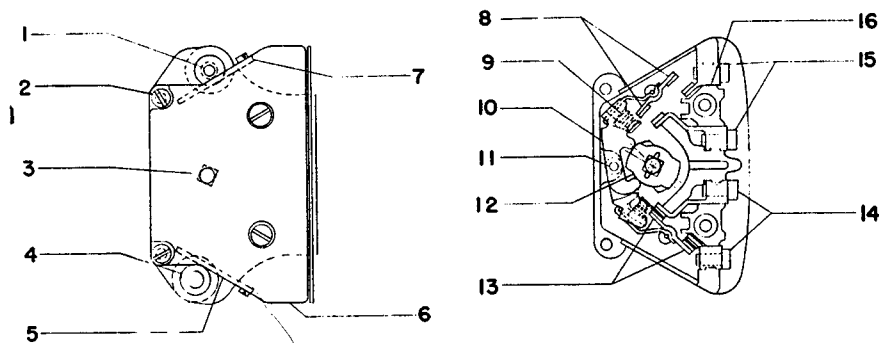

Fig. 19 (242C588) Auxiliary switch - standard breaker
The auxiliary switch operating rod (5) should be adjusted so that the switch "a" contacts close when the arcing contacts of the outer poles are parted by 1/8 to 1/4 in. This dimension may be checked in the same manner described for the standard breakers. The length of the operating rod may be varied by changing dimension "a" (see Fig. 19) and aligning the operating rod as described for the standard breakers.